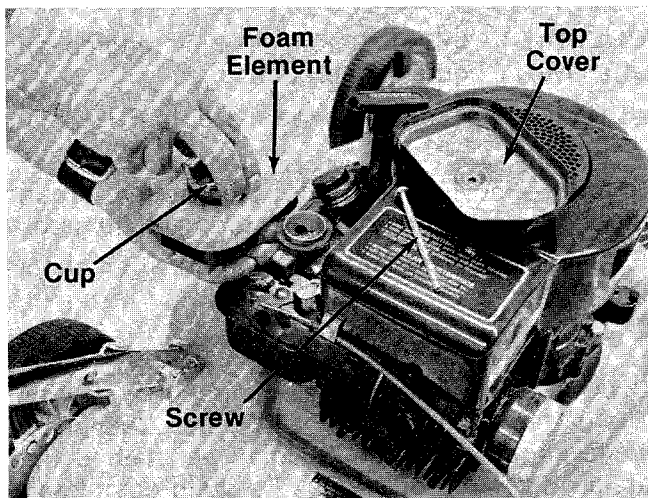

FIGURE 20.
**CLEAN AIR CLEANER** and re-oil element every 25 hours under normal conditions. Clean every few hours under extremely dusty conditions. Poor engine performance and flooding usually indicates that the air cleaner should be serviced. See figure 20.